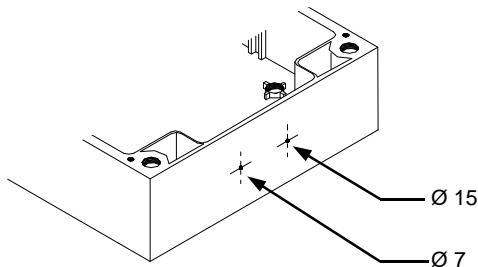

FIG. 1.0
- Mark the centre of the holes to be drilled on the front of the bottom enclosure. **(Fig. 1.0)**